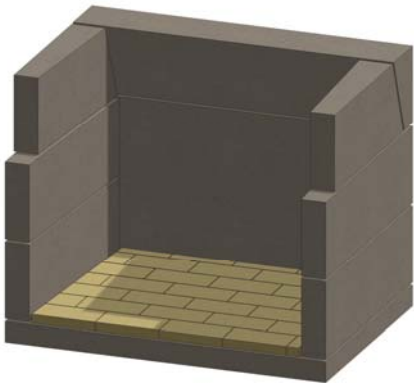

Figure 14. Floor Firebrick
H. Line the firebox, using split firebrick and 1/4-inch mortar joints. Install firebrick on the floor first, with 1/4-inch of Stone Age Multi-Purpose Ready-Mix or other high temperature mortar. See Figure 14.